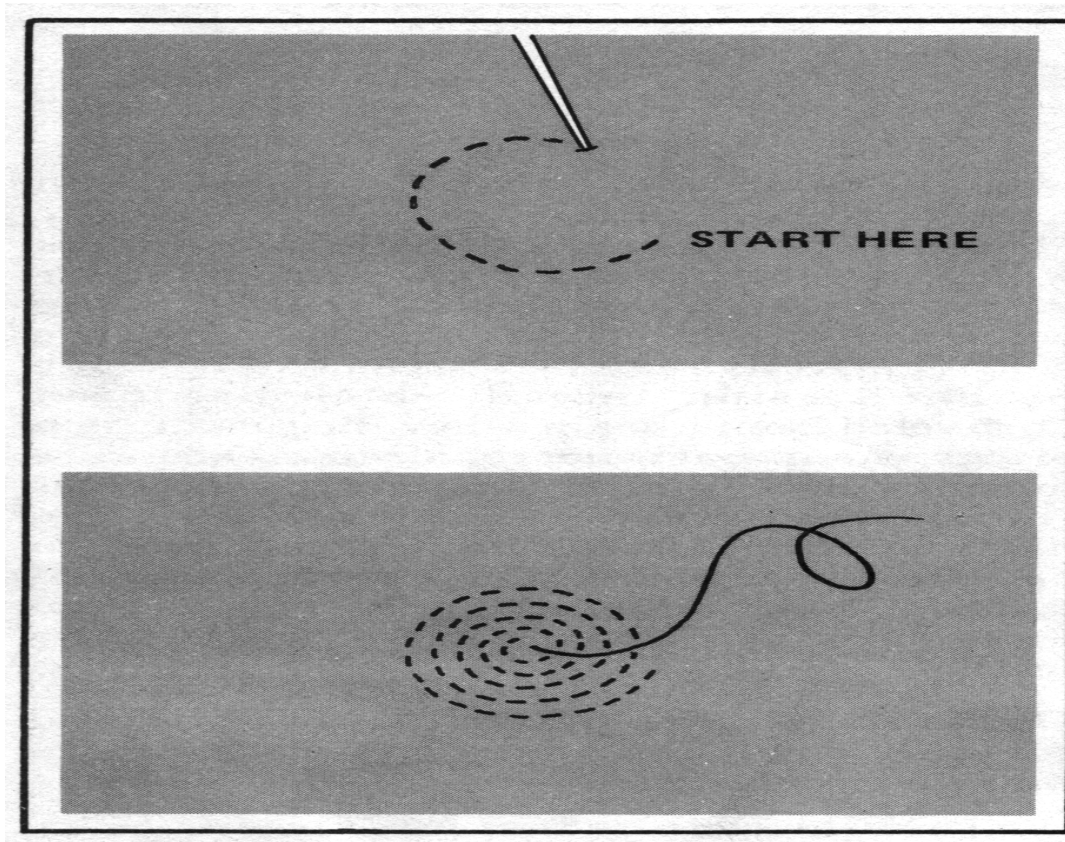

Figure 4-1. Circular darn
a. Circular Darn. A circular darn (Figure 4-1) is used to repair very small holes and worn spots. To make a circular darn--
- (1) Turn the cloth so that it is faceup.
- (2) Start sewing just outside the damaged area. Stitch first around the area. Then stitch toward the center in a spiral fashion. Make the stitches close together, but do not overlap them.
- (3) Stitch around and around, making the spiral smaller and smaller until the stitches reach the center.